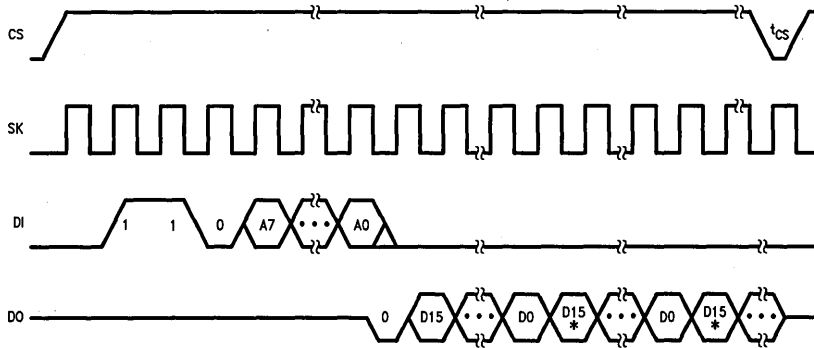

FIGURE 9. Sequential Read Sequence
The READ cycle requires the host to raise chip select (CS) and then clock in thru the Data-In (DI) pin a start-bit, op-code, and address. Following clocking in the last address bit, the Data-Out (DO) output comes out of the high impedance state and drives a low level on the output. This is referred to as the dummy bit and is a good indication that a READ mode has been successfully entered if difficulty is encountered during initial debug of a system. The dummy bit is clocked out of the EEPROM on the same rising edge of SK that clocks in the last address bit, A0. This is shown in Figure 9.
word is proceeded by a dummy bit as in a standard READ, although the dummy bit is suppressed in all subsequent data words as shown in Figure 9.